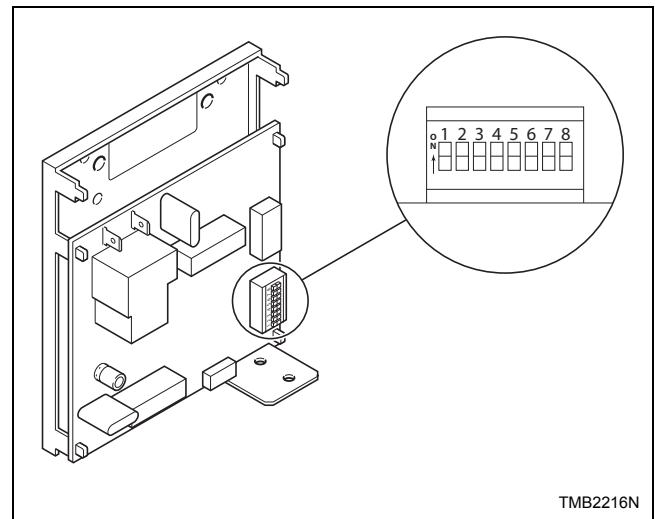

Figure 6
2. Write down machine control dip switch settings, then set them all to the off position. Refer to *Figure 6*.